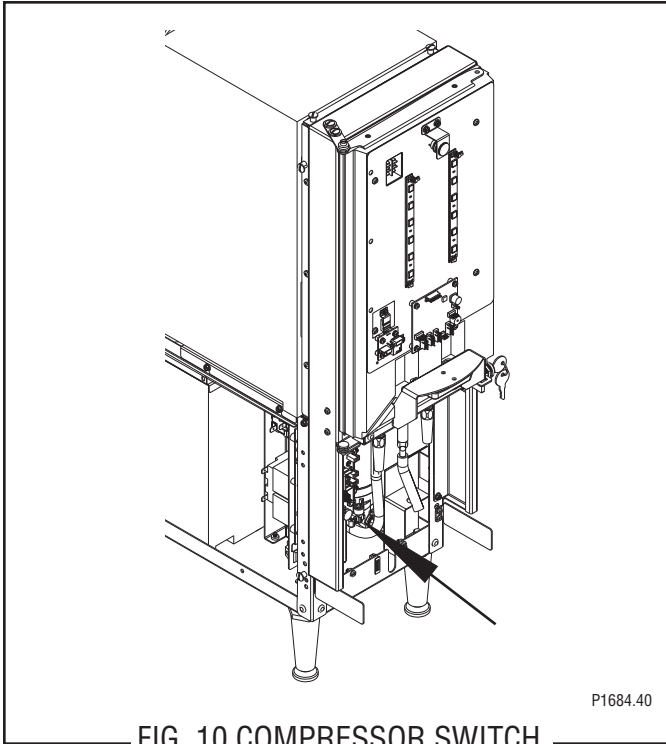

FIG. 10 COMPRESSOR SWITCH
1. Remove terminal cover (1).
3. Remove relay (2).
4. Remove overload protector (3) and discard overload protector.
5. Install new overload protector (3) on to the relay.
6. Install relay (2) on to the compressor.
7. Refer to Fig. 10 and reconnect the thermal overload protector wires.
8. Reinstall terminal cover (1).